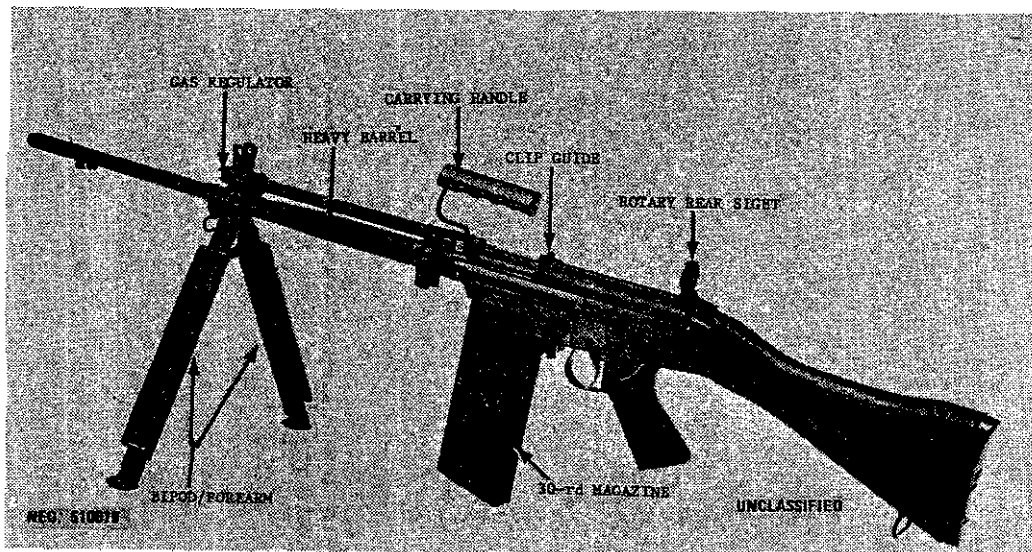
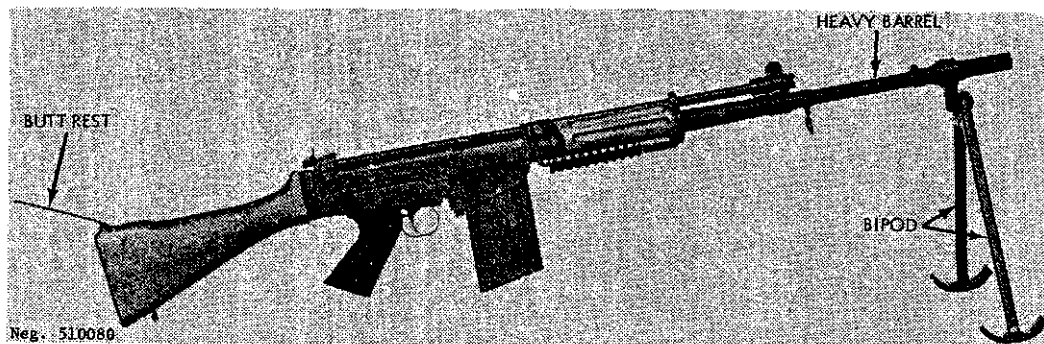

Figure 80. Canadian C2A1 automatic rifle.
Figure 81. FN/FAL (FALO) AUTOMATIC RIFLE
d. When equipped with a sturdy bipod and a heavy barrel, the FAL (FALO) is used as an automatic rifle or light machinegun. The Canadian C2A1 (fig 80) and the FAL automatic rifles (fig 81) and 82) are examples of such weapons. The instructions given for the regular FN/FAL rifle are also applicable to these automatic rifles. All FN/FAL rifles fire the 7.62x51-mm NATO cartridges (sec V).